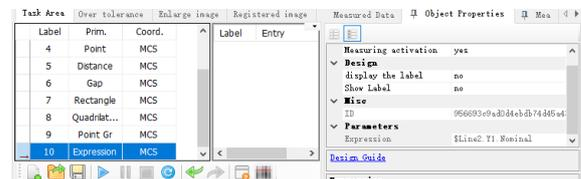

Figure 2
- B. Click on the output of the primitive in the primitive list and double-click on the measured value, and then the measured value will jump to the expression box (Figure 2).